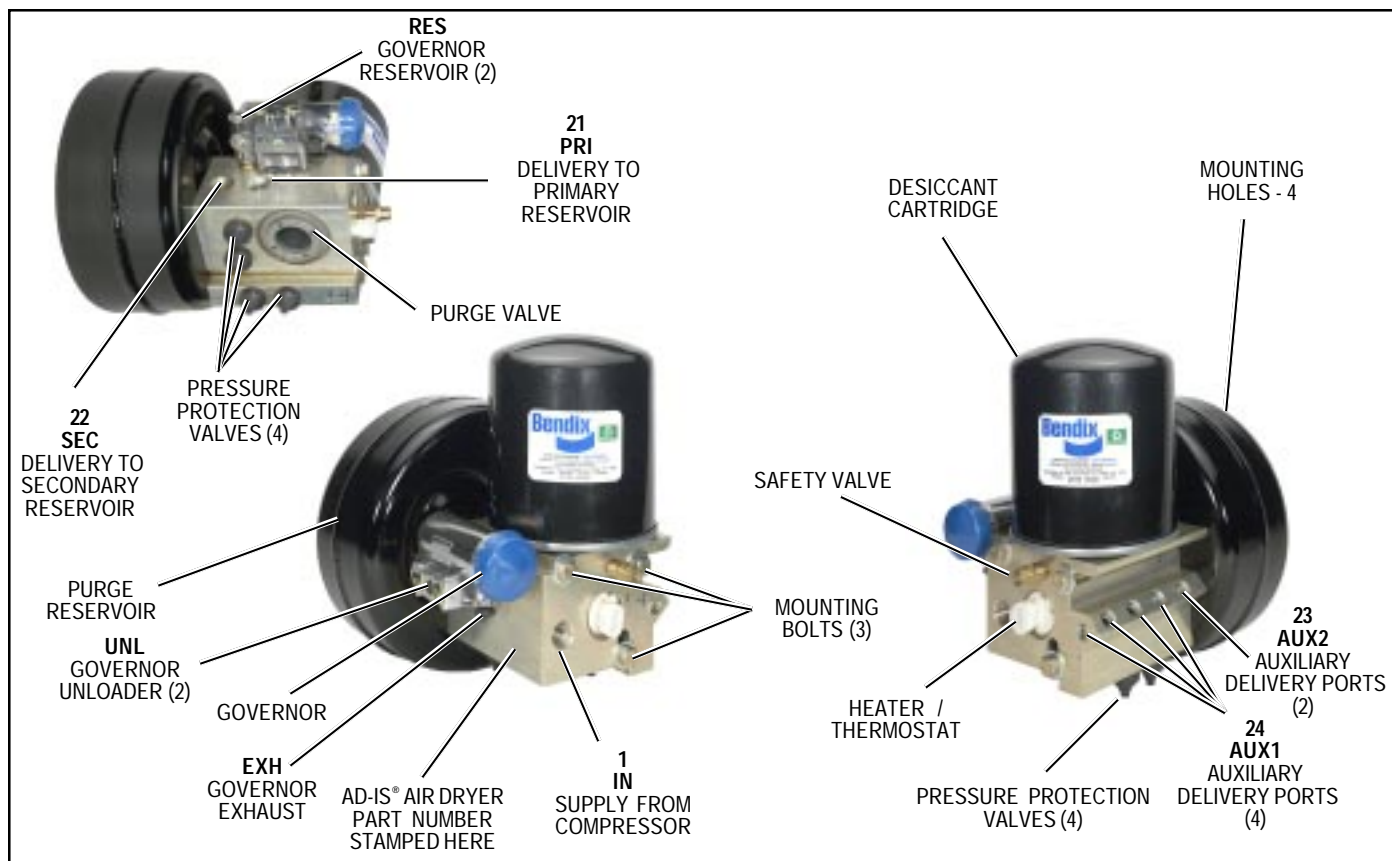

FIGURE 1 - AD-IS® AIR DRYER AND RESERVOIR SYSTEM
- 3. Check the AD-IS® air dryer and purge reservoir bolts for tightness. See Figure 1. Re-torque the three air dryer bolts to 360-420 inch pounds and the four purge reservoir bolts to 300-360 inch pounds.